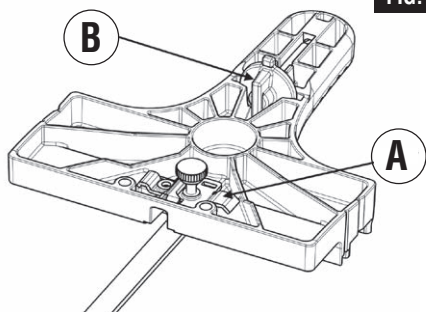

FIG. 9
The JA1010 is used for fast and accurate straight and circle cutting. It includes the guide, two clamps for attaching it to the jig saw (A), and a center pin for guiding circle cuts (B). The clamps and the centering pin can be stored on the guide (Fig. 9).